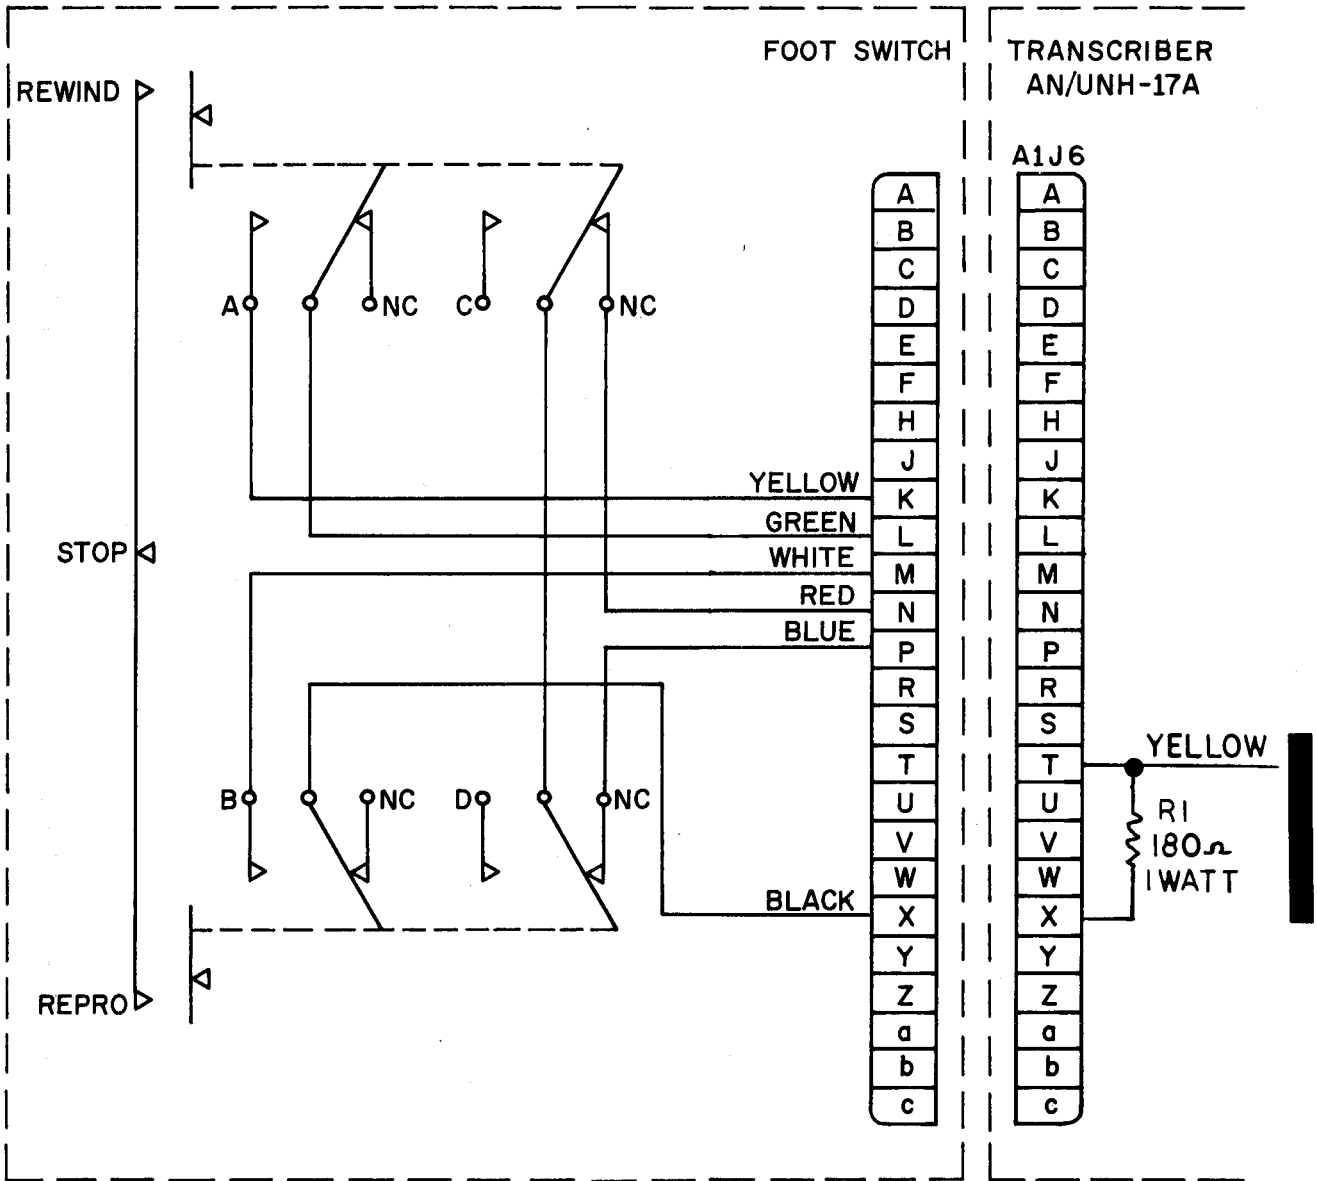

FIGURE 6-11
b. FootSwitch. If a footswitch is connected (supplied with the unit), the rocker switches are connected in parallel with the push buttons on the front panel and permit REPRODUCE, STOP and REWIND modes only. (See Figure 6-11.)